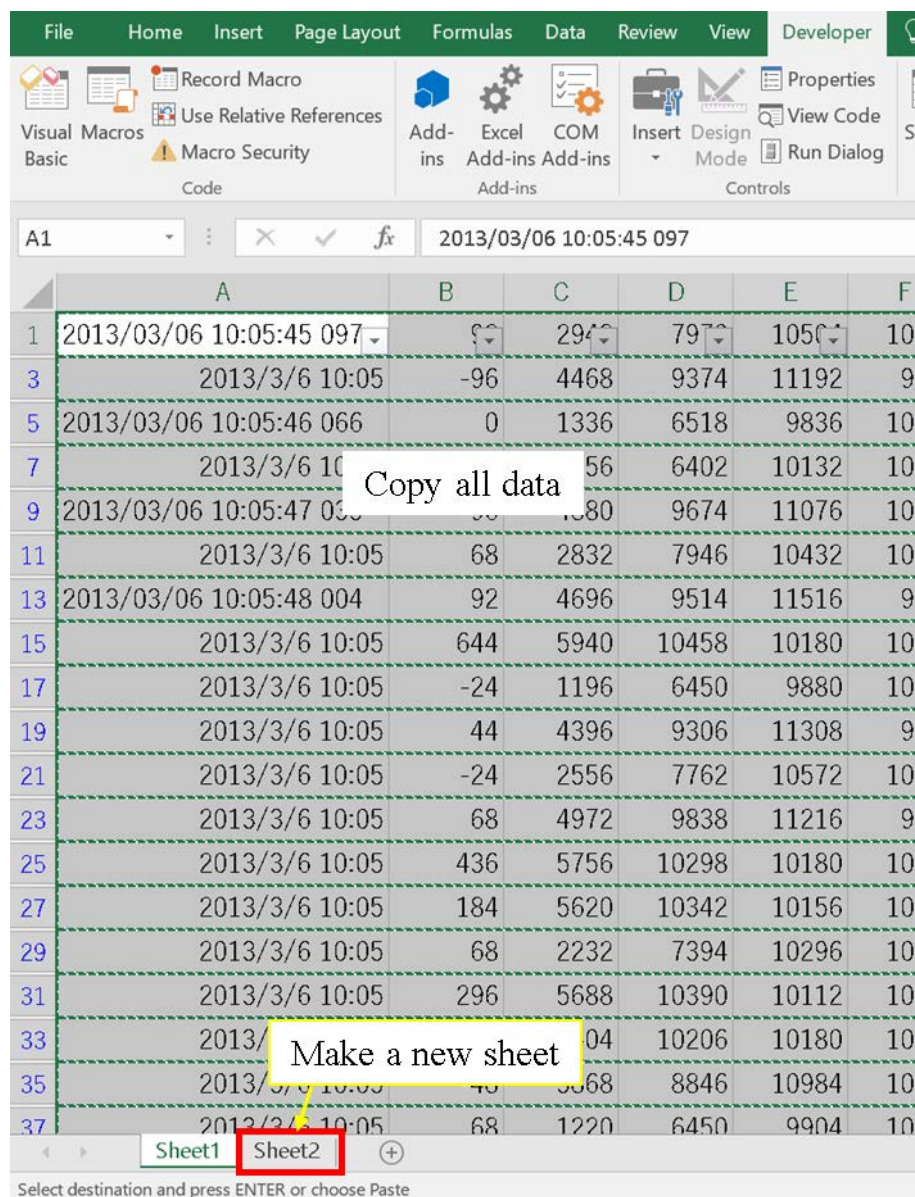

Figure 23. Copying and pasting the filtered data to a new sheet.
- 6) Copy the filtered data (column A to ADV) and paste to a new sheet (the sheet is written as “Sheet 2” below) (Figure 23).